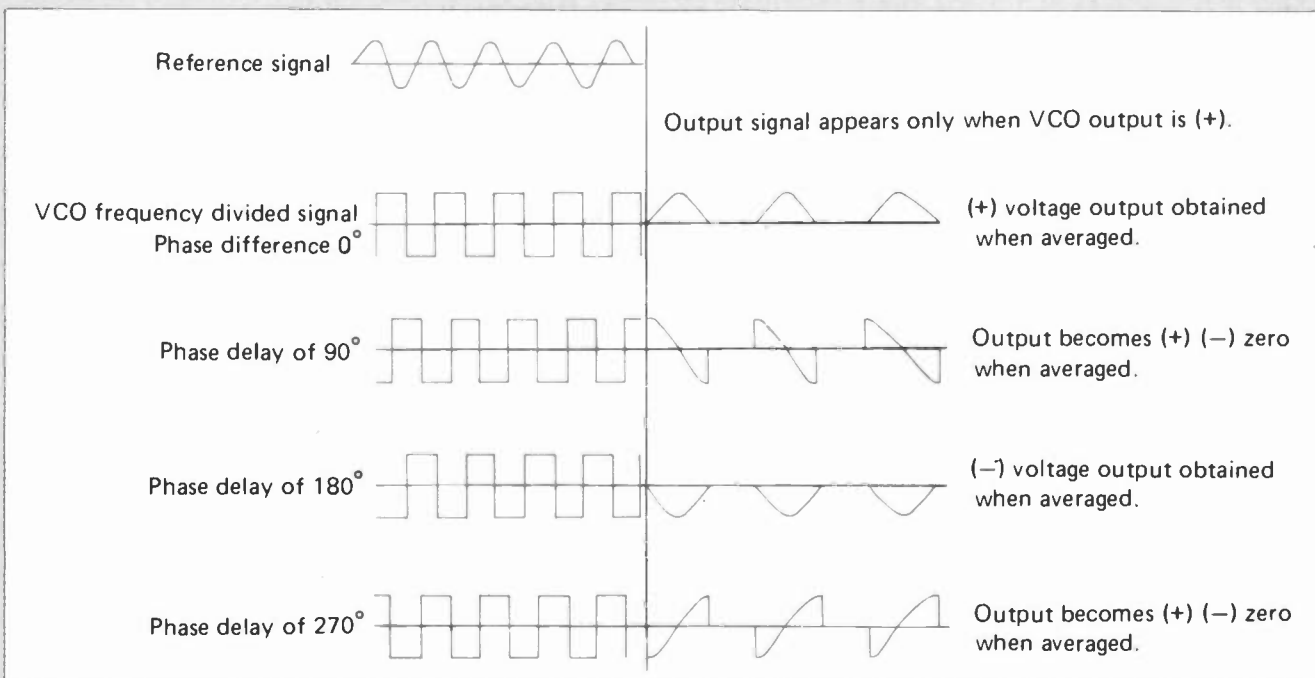

Fig. 9 Signal reference charge for the PLL circuit
- The phase comparator then compares these two 19kHz signals and detects the presence of any phase difference between them. An output voltage signal is generated in proportion to the degree of difference in phase. (See Fig. 9.) This signal is then converted by a low-pass filter into a DC voltage signal which corresponds in level to the phase comparator output voltage.